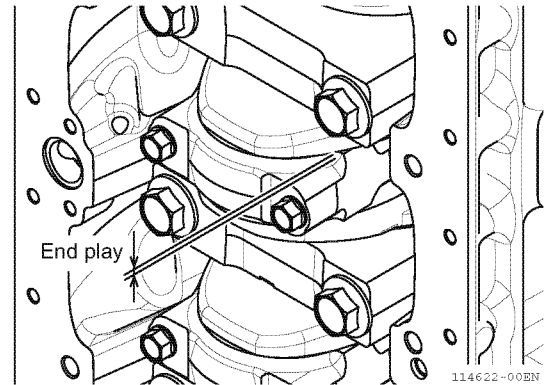

Figure 6-60
- Using a feeler gauge, measure the connecting rod side clearance as shown (Figure 6-60). See *Connecting Rod* on page 6-13 for the standard limit. If the measurement is out of specification, replace the crankshaft, connecting rod, or both.